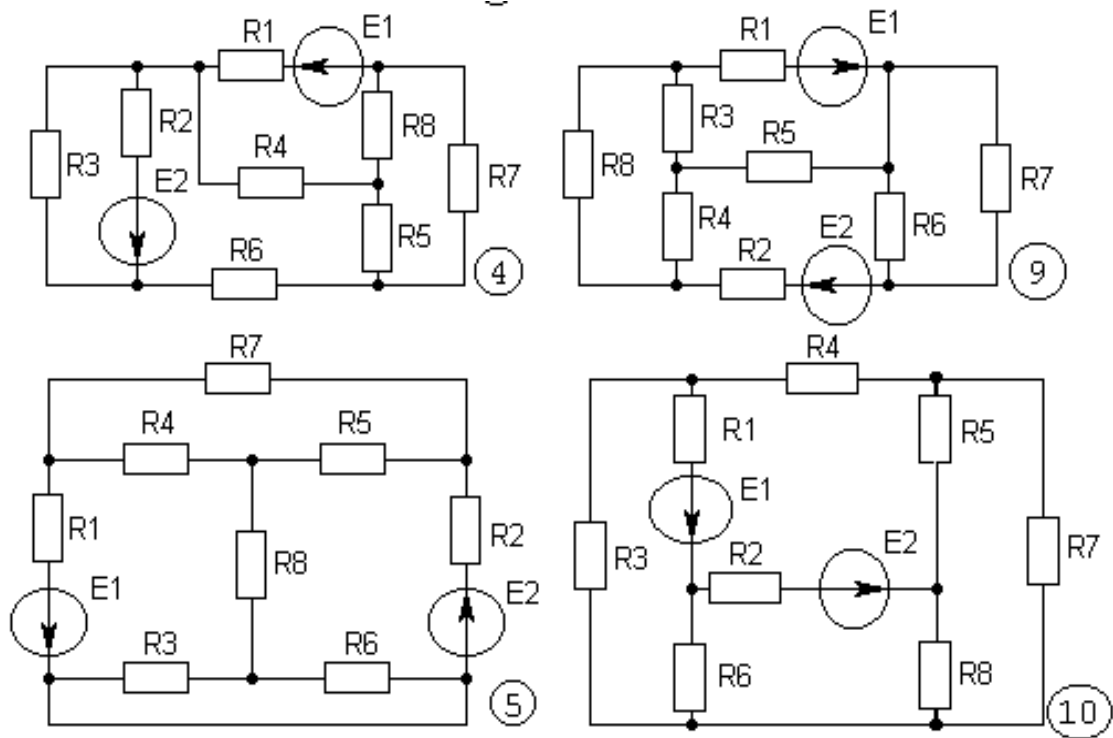

Fig. 4.1. Variants of schemes.
1. Display in the protocol of laboratory work in Fig. 4.2 the studied scheme according to the variant (Fig. 4.1 and Table 4.1). Indicate in the diagram the nominal values of resistors and voltage sources.